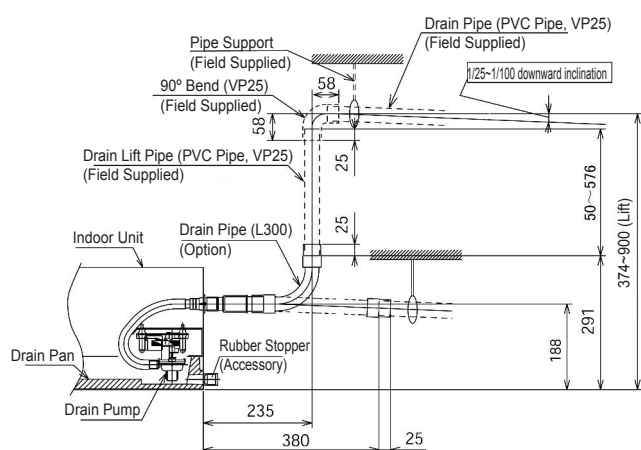

Fig. 6.1 Drain Pipe
- (1) See Fig. 6.1 for connection point of drain pipe.
- (2) Find a PVC pipe with an outside diameter of 32mm.
- (3) Fix the PVC pipe to drain pipe through adhesive and factory-supplied clamp. The downward inclination of drain pipe is 1/25~1/100.
- (4) Make thermal insulation after the proper connection of drain pipe.